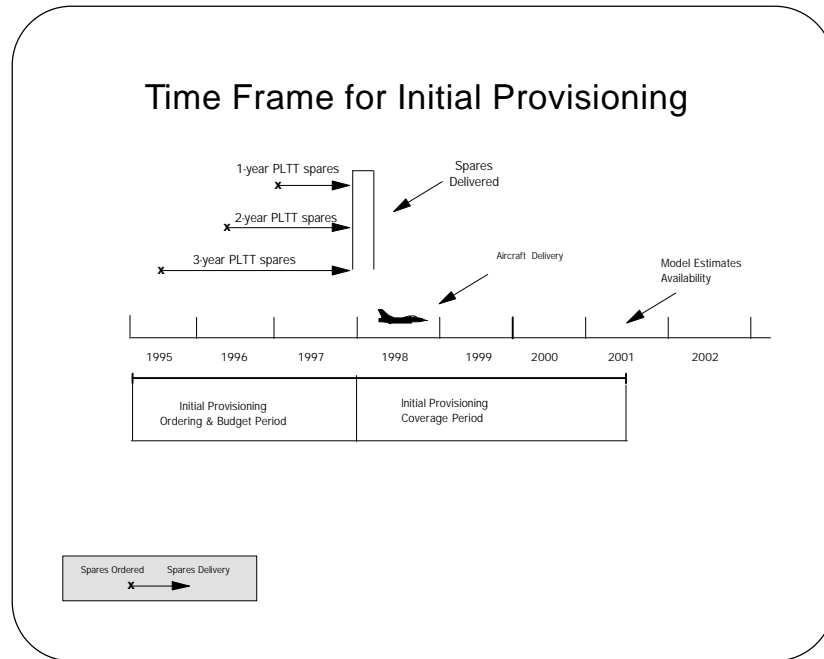
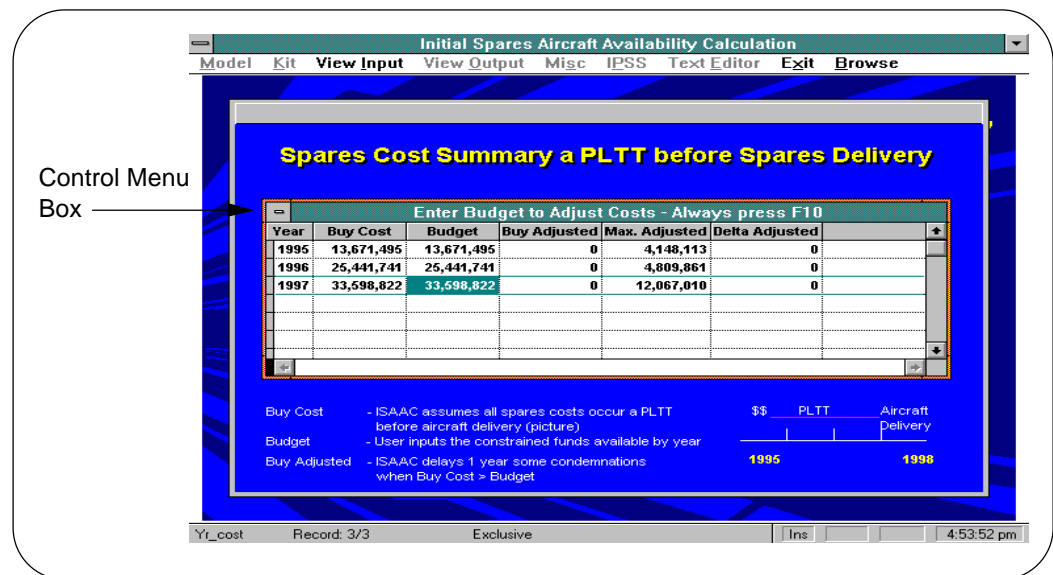

Figure 1-5
Figure 1-9
Figure 1-5 presents an example of the basic model approach for estimating spares procurement. The figure displays two key periods:
For instance, in Figure 1-5, we assumed a coverage period of 3.5 years (the IAF states that assumption as a 3-year coverage period starting halfway through the first year of delivery) and an aircraft delivery of 1998. With that information, the model starts the coverage period on the first day of the year the aircraft are delivered (1998) and ends the coverage period at 3.5 years later, or midway through 2001. The model determines the ordering and budget period using the aircraft delivery year and each item's PLTT. The model assumes that all initial provisioning spares will arrive in the aircraft delivery year and that their impact will be felt one PLTT in advance of their delivery (i.e., at the time the order is placed). Thus, the start of the ordering and budget period occurs a maximum PLTT before the aircraft delivery, and it ends the year before aircraft delivery. For our example, if the longest PLTT of all the items is three years, the model assumes that the ordering and budget period begins in 1995 and ends in 1997.
Once the model has developed spares requirements for war and non-war conditions (what we term a spares shopping list for the two analysis days), it can then determine when to order the spares and the resulting estimated costs by year. That information is displayed via the screen titled Spares Cost Summary a PLTT before Spares Delivery (Figure 1-9). To estimate that information, the model starts by assuming that the manufacturer delivers all spares on the first day of the delivery year (e.g., the first day of 1998). Then, by moving an item's PLTT back in time (the PLTT is given data), the model estimates the year the order needs to be placed (see Figure 1-5). The model can also estimate the annual buy cost (see Figure 1-9). For instance, all spares with less than a 1-year PLTT are ordered in 1997 and added to the 1997 spares buy cost, all spares with a 1-to-2 year PLTT are ordered in 1996 and added to the 1996 spares buy cost, and so on.
An additional consideration is that the IAF budget constraint has two parts: a total constraint (e.g., \$100 million) for all initial provisioning spares, and an annual constraint for each year (e.g., \$20 million, \$30 million, and \$50 million for 1995, 1996, and 1997, respectively). You can enter the annual constraints in the budget column of Figure 1-9, and the model will then delay less important orders to try to accommodate those constraints. We will describe that operation in Chapter 2.
- Press the **F10** function key, causing cost-adjusted values to be calculated for each year of the coverage period. Then close the window by clicking on the Control-menu box (see Figure 1-9).